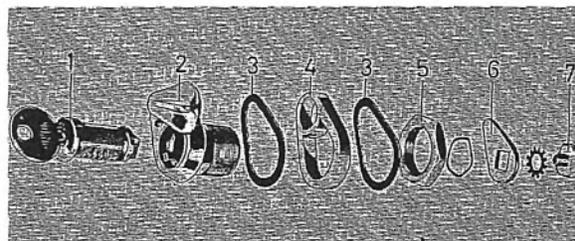

Fig. 8-34. Tank cap lock disassembled
The lock cylinder is removed by taking off the bolt (7) and lock arm (6, Fig. 8-34). If the entire lock is to be removed, the locknut (5, Fig. 8-34) must be removed.